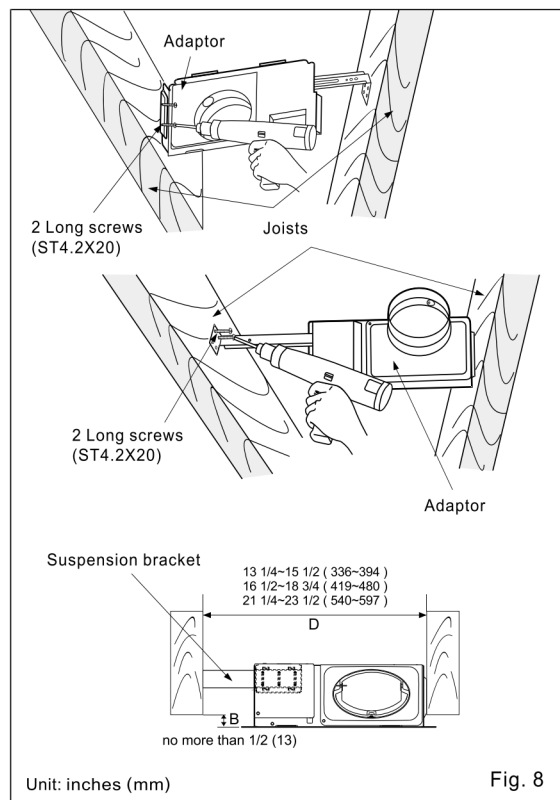

Fig. 8
2. Insert the suspension bracket into the adaptor and secure it to joists by using long screws (ST4.2X20). (Fig. 8)
3. Remove adaptor from fan body and secure it to joists as in Fig. 8 of page 8.